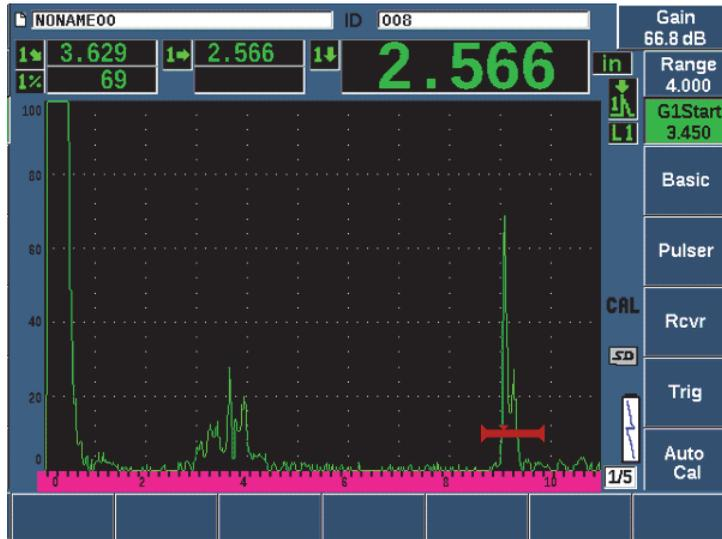

Figure 9-28 Example of a gated signal for velocity calibration
7. Adjust the value to match the known thickness of the gated indication (0.500 in. in this example), and then choose **Continue** to continue to the second calibration step (see Figure 9-28 on page 179).